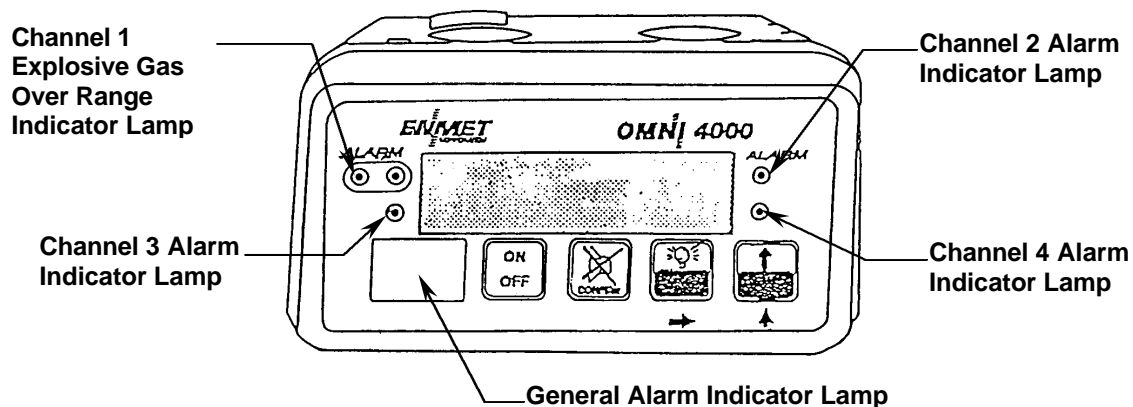

Figure 2-16: Location of Alarm Indicator Lights
- general alarm indicator lamp and appropriate channel indicator lamp lit. See Figure 2-16.